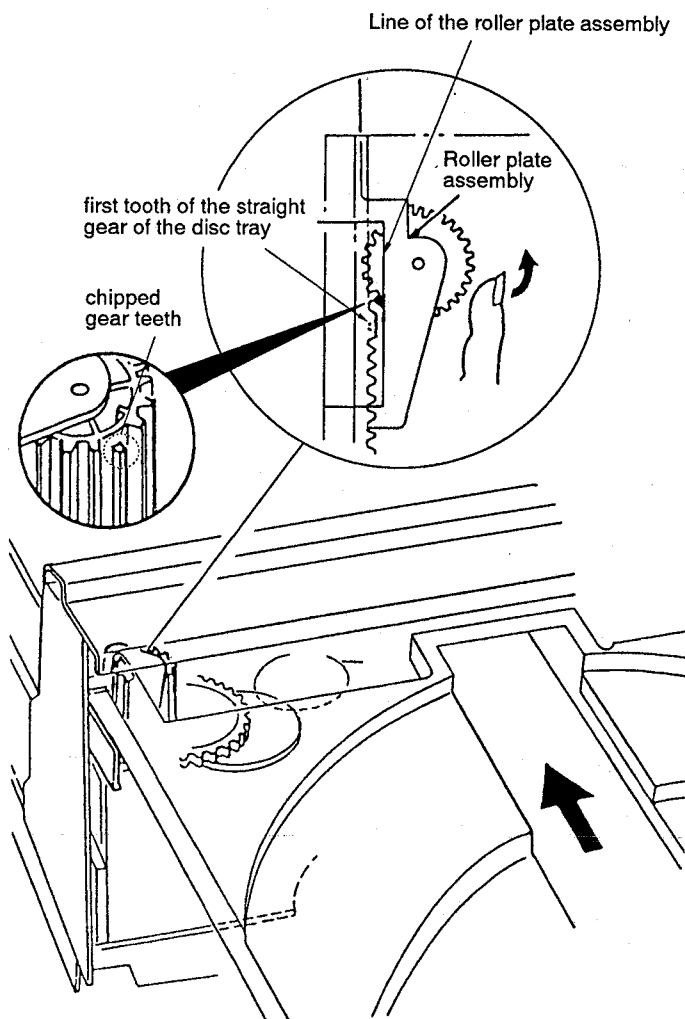

Fig. 19
- ① Adjust the gear positions in the loading mechanism for the disc tray open status, as ㉓ and ㉔ mentioned below.
- ② The top of one of the gear teeth of the roller plate assembly has been chipped off. Finely adjust the position of this chipped tooth by turning the gear counterclockwise so that the tooth comes halfway on the roller plate line. (Fig.19)